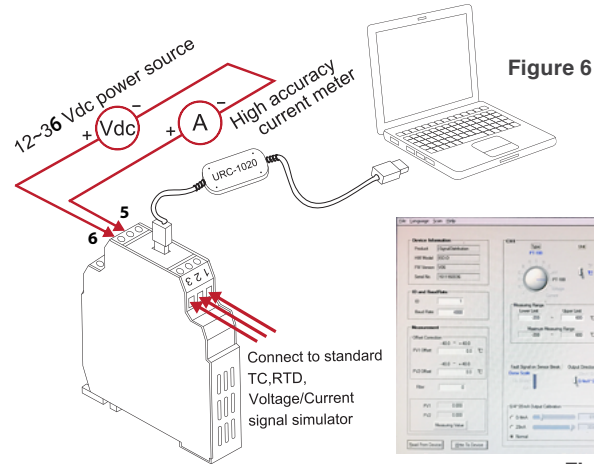

Figure 5
11. **Device information**: Indicate the device model, firmware version, series number and communication status. Figure 5.